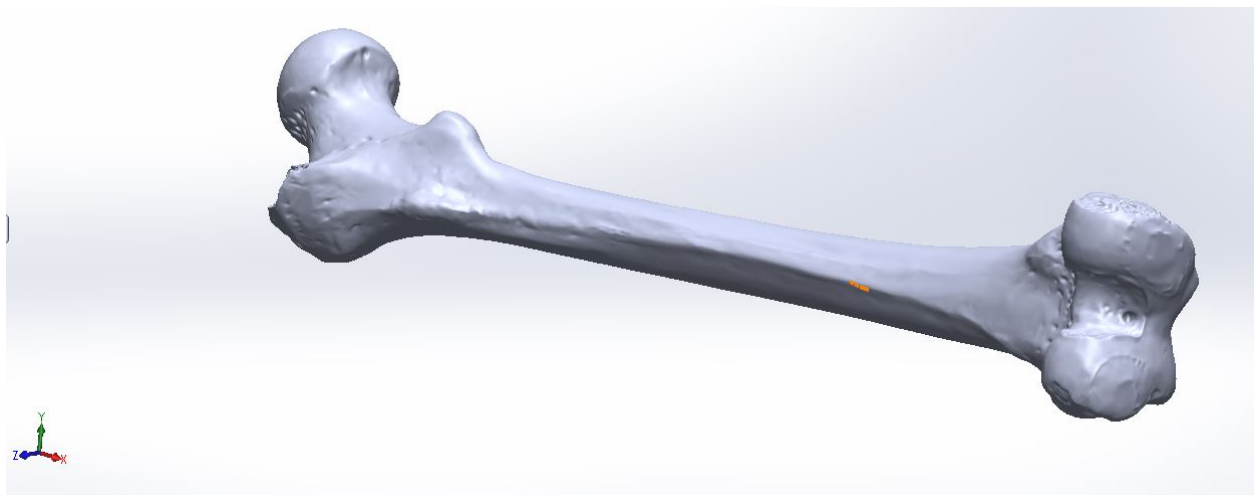
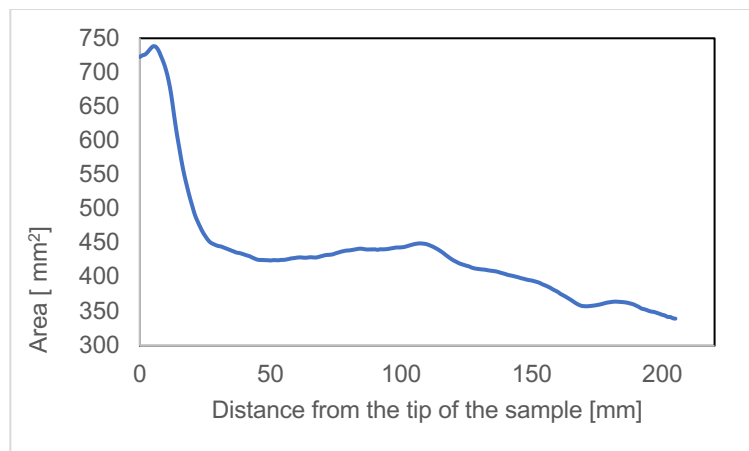

Figure 1. The geometry of a femur bone (data from <https://grabcad.com/library/femur-bone-2>). The bone is roughly aligned in the x-direction.
Figure 2. Changes in the cross-sectional area of the bone sample used in our mechanical testing experiment.
The purpose of this project is to conduct a simple analysis using bar elements to model an organic shape. I have chosen a section of a femur bone (Figure 1) that belongs to the left leg of a male subject, 44 years old (died in 2016), with weigh of 85 kg, and height 185 cm. If you are curious, a friend of mine who is a gait researcher gave this file to me and informed me that many files like this are available online (<https://grabcad.com/library/femur-bone-2>). As you read through, I have outlined questions in different sections of this documents (with their corresponding points towards the total 100 points for this project and some additional bonus points). Make sure that you specify that section in your report. Submit all documents (including a copy of your computer programs) in a single PDF file or a single MATLAB live script via the designated section for Project 1 in CANVAS.
Let us also assume that we have cut a section with the length of 205 mm from the femur bone shown in Fig. 1. This section has a changing cross-sectional area as shown in Fig. 2. If you are
- **Part (a)** Import this file into MATLAB using `readmatrix` command and find the value of the averaged cross-sectional area for this sample. Plot area versus distance from the tip and confirm that your graph matches Fig. 2. You can use the command “print” to export your MATLAB figures into high resolution images that you need to include in your report. Do not use print screen. This section has 5 points.